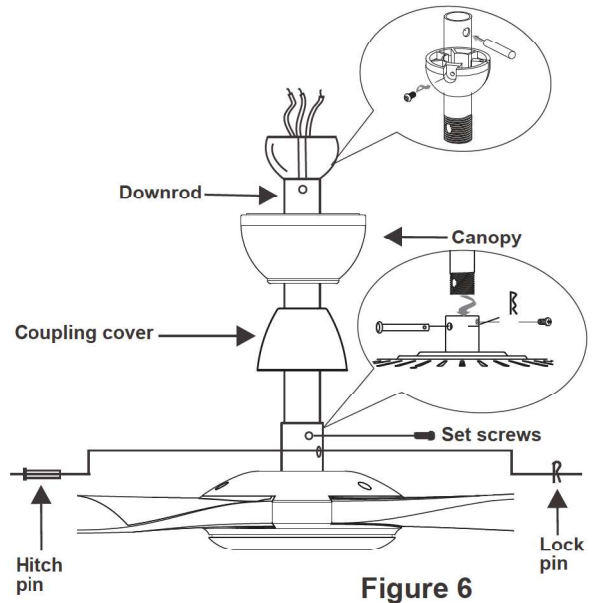

Figure 6
Step 4. Route wires exiting from the top of the fan motor through the canopy, coupling cover and then through the ball/downrod. (Fig. 6)
Step 5. Align the holes at the bottom of the downrod with the holes in the collar on top of the motor housing. Carefully insert the hitch pin through the holes in the collar and downrod. Be careful not to am the pin against the wiring inside the downrod. Insert the locking pin through the hole near the end of the hitch pin until it snaps into its locked position. (Fig. 6)